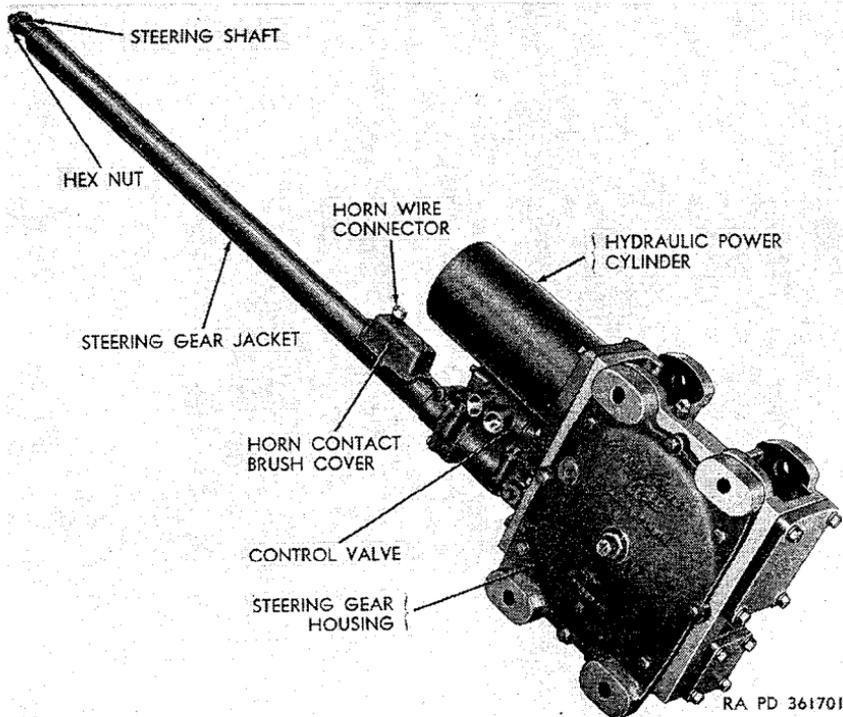
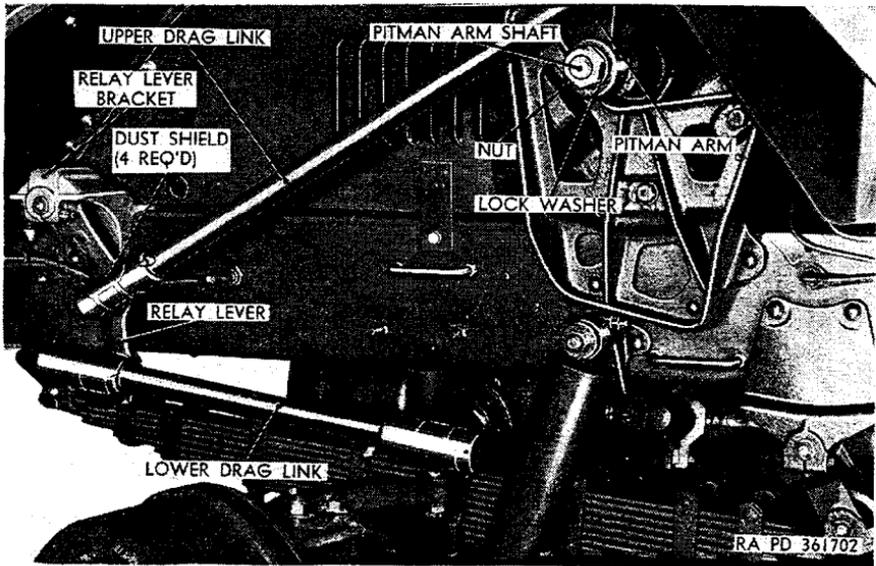
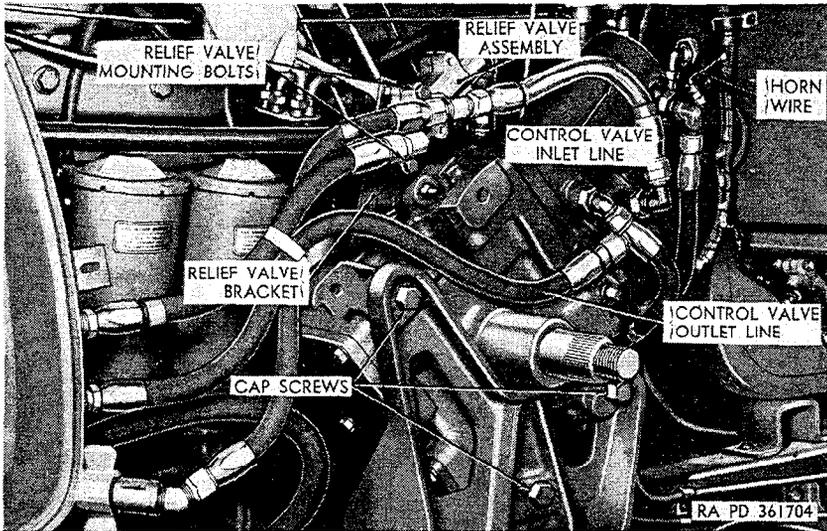
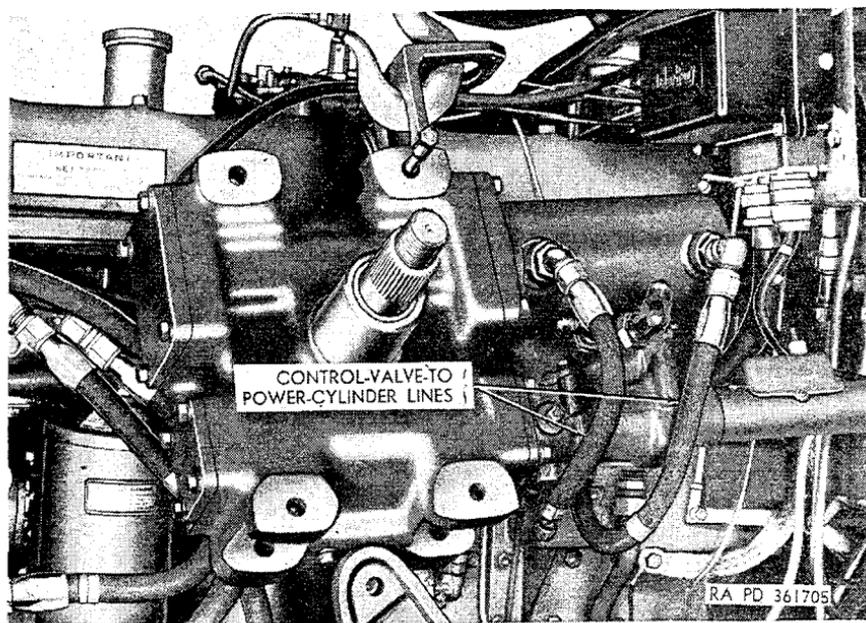

Figure 260. Right side view of steering gear removed from vehicle.
Figure 261. Steering linkage installed on vehicle under left front fender.
Figure 263. View of steering gear installed with left front fender removed.
Figure 266. Removing steering gear.
- (1) *General.* The steering system is comprised of the steering wheel (P, fig. 65), hydraulically-assisted steering gear (fig. 260), hydraulic oil reservoir (F, fig. 148), hydraulic pump (fig. 130), relief valve, and steering linkage.
- (2) *Steering wheel.* The three-spoke steering wheel (P, fig. 65) is mounted on the upper end of the steering shaft (fig. 260) and secured by a hex nut. The horn button assembly (W, fig. 65) is mounted in the center of the steering wheel.
- (3) *Steering gear* (fig. 260). The steering gear is a cam-and-lever-type unit equipped with a hydraulic power cylinder. A lever inside the steering gear housing is actuated by rotation of a cam at the lower end of the steering shaft, which turns with the steering wheel. This causes the upper end of the pitman-arm (fig. 261), which is secured to the opposite end of the lever shaft, to move either forward or backward, according to the direction of rotation of the steering wheel. The movement of the pitman-arm is transmitted through the steering linkage (fig. 261) to the steering knuckles and wheels, steering the vehicle. Rotation of the steering shaft also
- (6) *Relief valve.* The relief valve (fig. 263), mounted on a bracket bolted to the steering gear housing, prevents excessive
- (7) *Steering linkage.* The steering linkage (fig. 261) consists of the upper drag link, relay lever, and lower drag link. Adjustable spring-loaded ball seats at both ends of each drag link (fig. 261) engage ball studs attached to the pitman-arm, relay lever, and steering arm. The relay lever (fig. 261) consists of a lever with two ball studs to which the forward ends of the upper and lower drag links are secured.
- (2) Remove hex nut (fig. 260) securing steering wheel to upper end of steering shaft.
- (1) Position steering wheel (P, fig. 65) on upper end of steering shaft (fig. 260) with splines on end of shaft engaging splines in bore of steering wheel hub.
- (2) Install hex nut (fig. 260) on steering shaft and tighten.
- (3) Install horn button assembly (par. 180).
c. Pitman-Arm Removal (fig. 261).
- (1) Remove nut and lockwasher (fig. 261) securing pitman arm to left end of pitman-arm shaft.
- (2) Pull pitman arm from shaft.
- (3) Disconnect rear end of upper drag link (fig. 261) from pitman-arm ball stud (par. 249).
d. Pitman-Arm Installation (fig. 261).
- (1) Connect rear end of upper drag link to pitman-arm ball stud (par. 249).
- (2) Set front wheels in straightahead position, and set steering wheel in the midposition (*b*(1)(*d*) above).
- (3) Position pitman arm on splined shaft with arm pointing upward.
- (4) Push pitman arm onto shaft until nut can be installed on threaded end of shaft. Install lockwasher and nut on shaft and tighten.
- (4) Remove left front fender assembly (par. 321).
- (5) Remove pitman arm (*c* above).
- (6) Remove relief valve (par. 248*b*).
- (7) Disconnect inlet and outlet lines (fig. 263) at left side of control valve.
- (8) Disconnect horn wire (fig. 263) at terminal on top of horn-contact-brush cover (fig. 260).
- (9) Remove three safety nuts and cap screws (fig. 263) securing steering gear to steering gear bracket, and remove steering gear from vehicle (fig. 266).
- (10) Remove split-lockwasher screw, spacer, cap screw, washer, and safety nut securing relief-valve mounting bracket (fig. 263) to steering gear housing, and remove bracket from housing.
- (11) Disconnect both ends of two control-valve-to-power-cylinder lines (fig. 266), and remove lines from steering gear.
- (12) Remove six elbows from control valve and power cylinder inlet and outlet ports.
- (1) Install six elbows in inlet and outlet ports of control valve (fig. 260) and power cylinder.
- (2) Position two control-valve-to-power-cylinder lines (fig. 266) at inlet-and-outlet-port elbows on control valve and power cylinder, and tighten connectors.
- (3) Position relief-valve mounting bracket (fig. 263) on right side of steering gear housing, install split-lockwasher screw, spacer, cap screw, washer, and safety nut, and tighten.